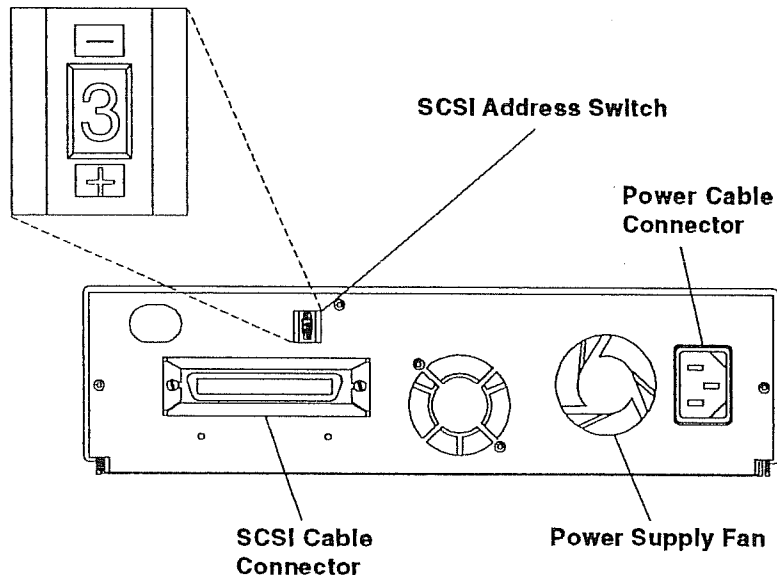

Figure 2-1. Back View of the 7208 Tape Drive
- Using Figure 2-1, press the + or – pushbutton to set the SCSI address switch on the back of the 7208 Tape Drive to the address you have previously determined. See "Step 2. Before You Begin" on page 2-2.